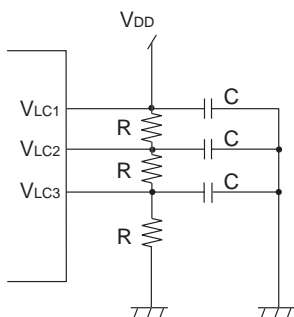

Figure:16.3.3 Supplying Voltage to  $V_{LC1}$  to  $V_{LC3}$
2. The LCD power supply  $V_{LC1}$  to  $V_{LC3}$  is supplied as shown in the following Figure:16.3.3.  $V_{LCD}$  value varies depending on the type of LCD. Refer to the specifications of LCD for the appropriate value.
In Figure:16.3.3, a bypass capacitor C (0.01 mF to 0.1 mF) is used to lower the impedance of power supply.